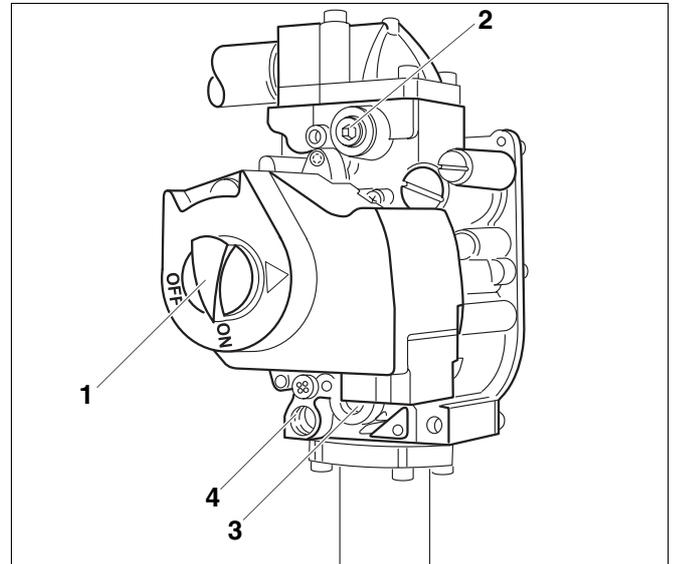

Fig. 36 Gas valve
6. Check the gas connection line to the gas fitting (→ Fig. 36) for leaks with soap solution. If no leaks are found, continue with step 8. If any leaks are found, close gas valve.